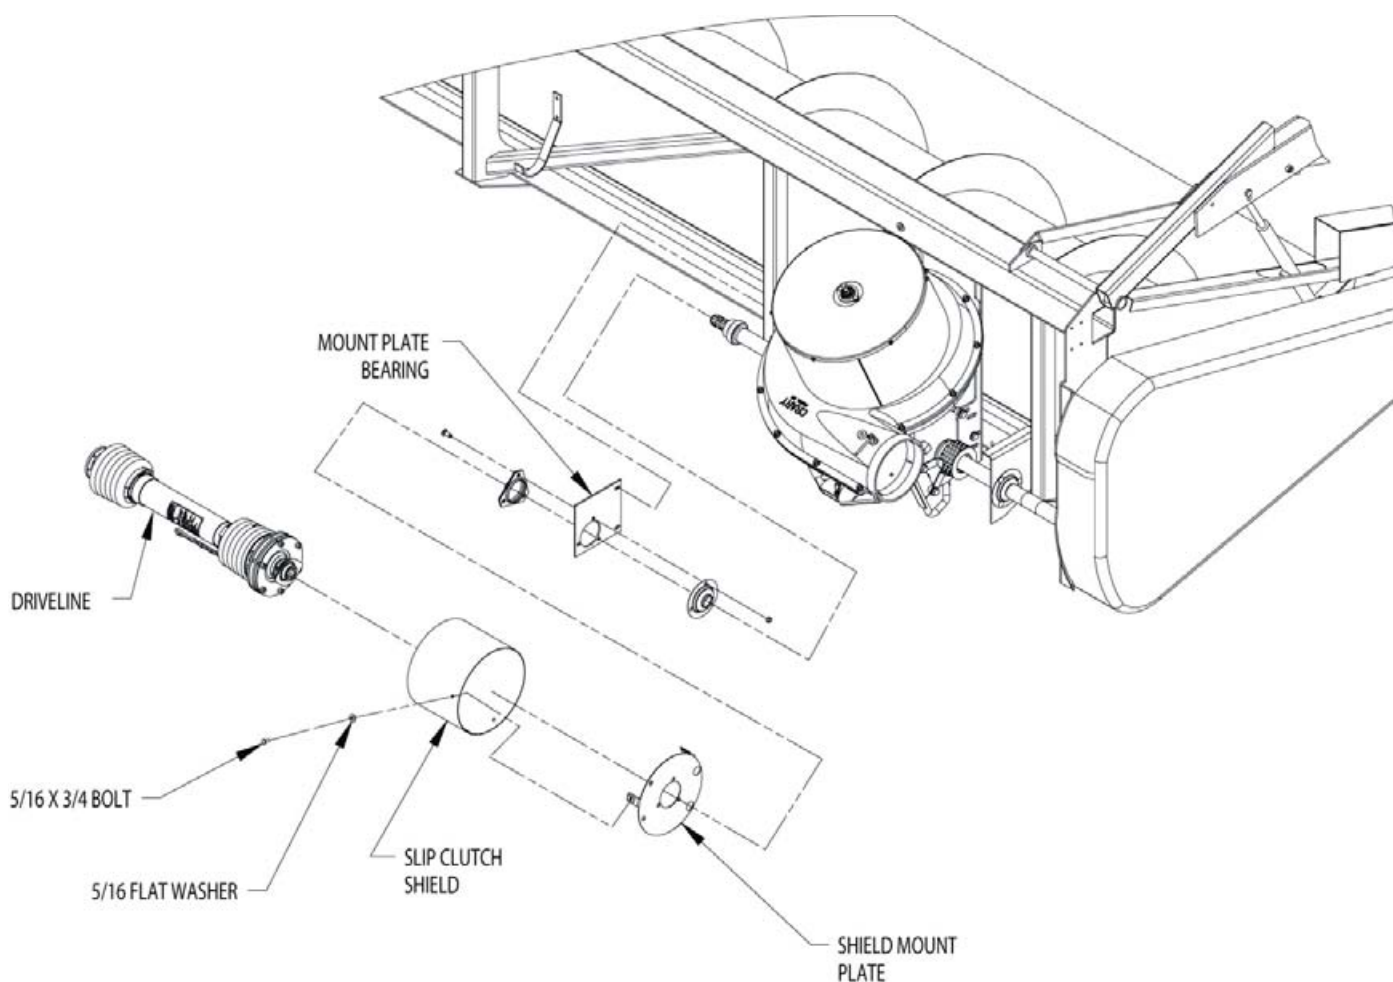

Figure 18, Right hand drive kit for gearboxes without a stub shaft
2. Install PTO shaft to the OEM driveshaft (Figure 18).